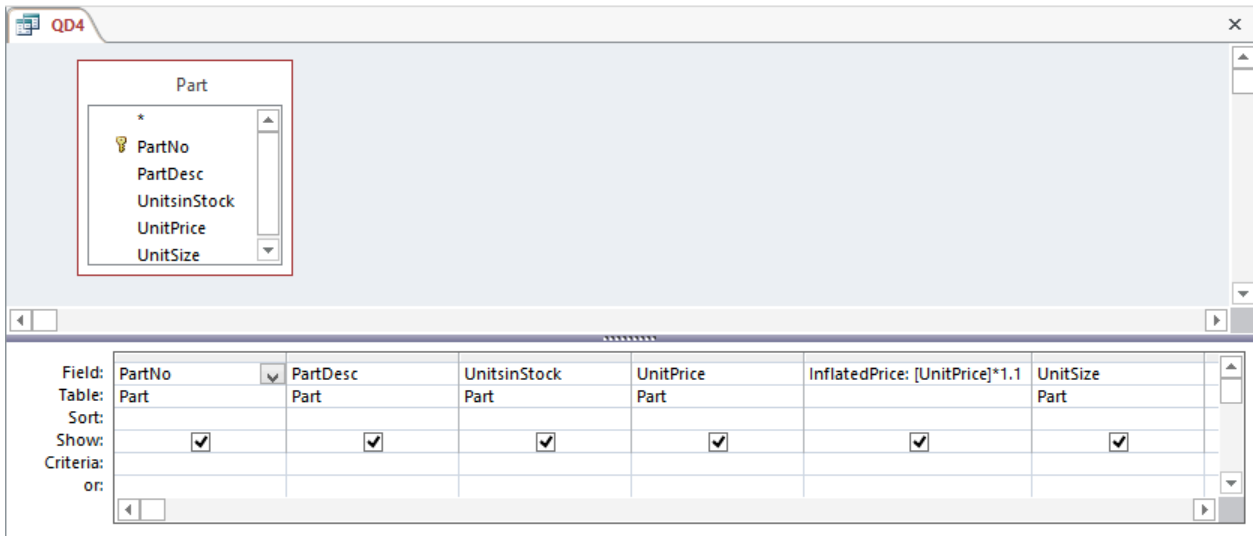

Figure 21: Completed “QD4”
When you are finished, click **OK**. Your *UnitPrice* field in design view should now appear as Figure 21. If you scroll in the cell, you can see the entire expression that you typed.
8. Open the Query Design Window: Next, open “QD5” in design view. It should appear on your screen the same as “QD4” (refer back to Figure 21).